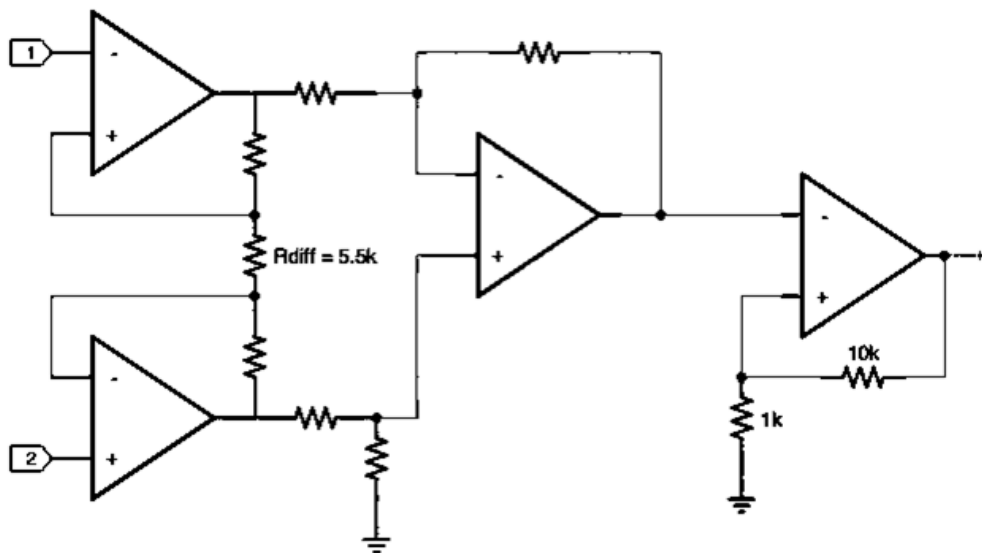

Figure 4: Instrumentation amplifier with second amplification stage.
1. Add a second amplification stage with a gain of 11 to the differential amplifier as shown in Figure 4. Use the TLC2274. What is the new gain of the circuit?